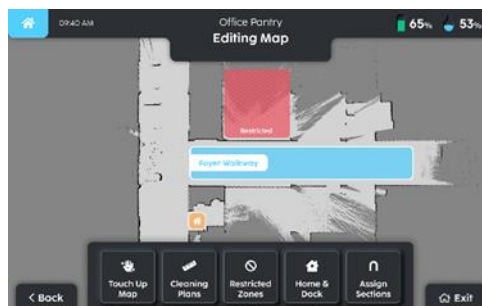

Fig 4
4. Select the 'edit' map (Fig 4).